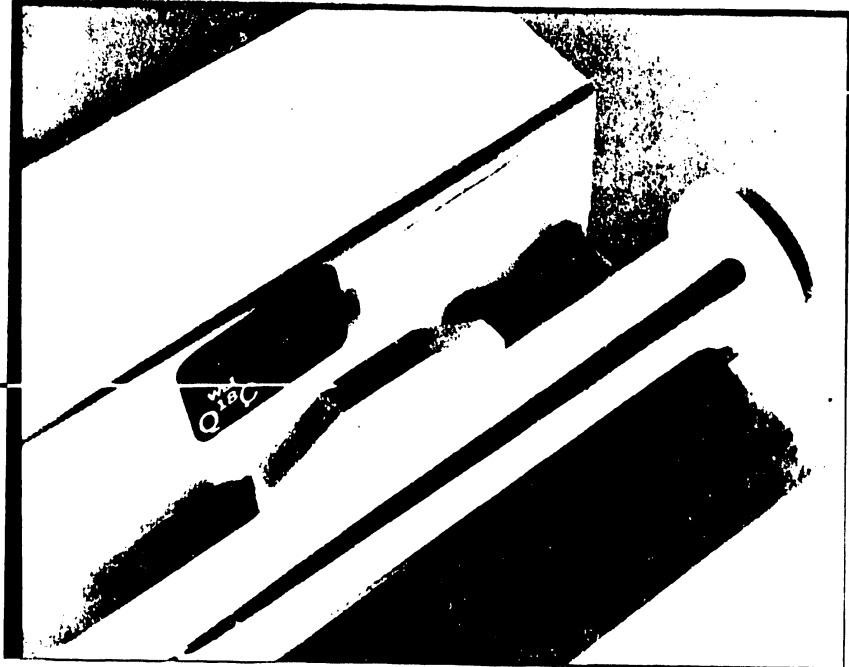

FIGURE 29
- (d) Move Y arm towards left margin until left margin stop (See Figure 29) actuates left X encoder switch (X SW1).
- (b) Remove the screw in the center of the end cap located on the left end of the X shaft. Remove the end cap. See Figure 29.